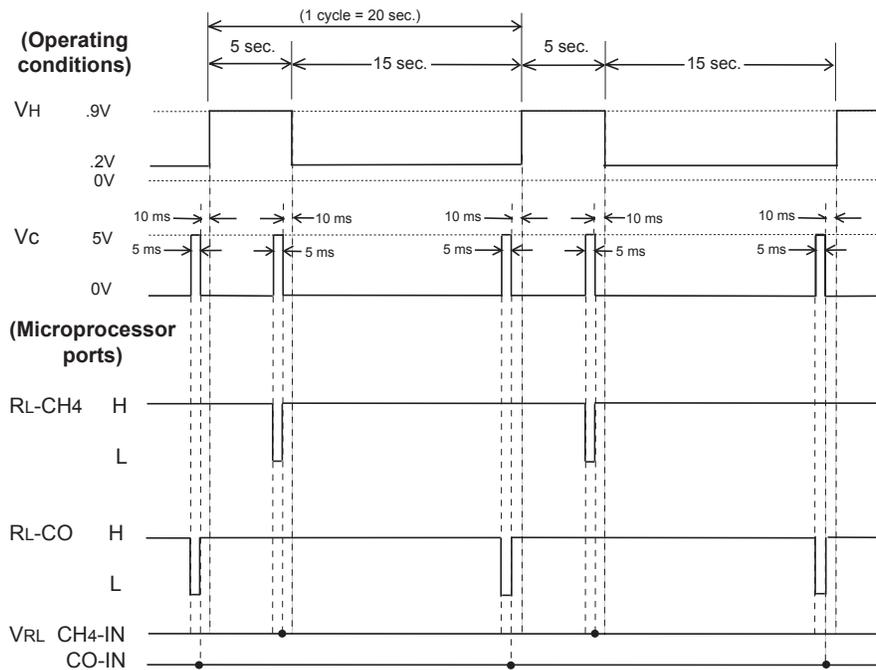

Figure 2 - Timing chart
- VH (H/L): 0.9V/0.2V (see timing chart, Fig. 2)
- VC: 5.0V pulse (see timing chart, Fig. 2)
The sensor requires two voltage inputs: heater voltage (VH) and circuit voltage (VC). The sensor has three pins: Pin #3--heater (+), Pin #2--sensor electrode (+), and Pin #1--common (-). To maintain the sensing element at specific temperatures which are optimal for sensing two different gases, heater voltages of 0.9V and 0.2V are alternately applied between pins #1 and #3 during a 20 second heating cycle (see Fig. 2).
Circuit voltage (Vc) should be applied only at the moment when the signal is taken from the sensor (please refer to Fig. 2):